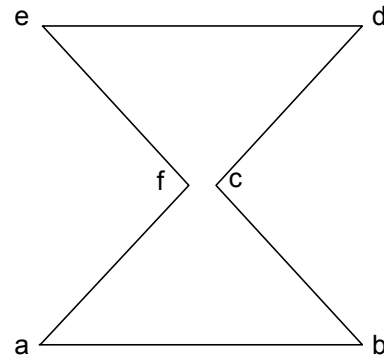

Fig. 3-177 Measurement Allowed (example)
- In such a case, specify the coordinate points in the order of "abcdef" as exemplified in Fig. 3-177. Note that measurement is allowed even if "c" and "f" are located at the same coordinate point.